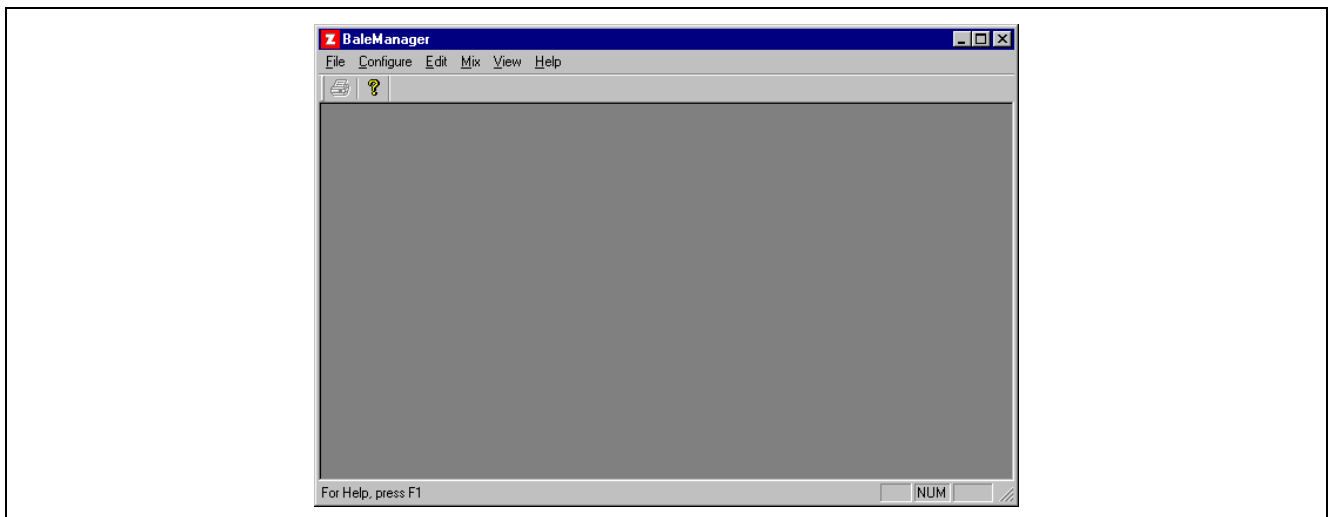

Fig. 6-58 Bale Manager Main Screen
16.1 Immediately, the Bale Manager window will appear (Fig. 6-58)
- 18.9 Select OK to exit the System Status window and go back to the Bale Manager window (Fig. 6-58).
20.6 Perform the above procedures for all of the listed fiber properties using the following values, then Exit to return to Bale Manager (Fig. 6-58).
21.6 Select Exit to complete Growth Area entry and return to the Bale Manager window of Fig. 6-58.
22.3 “Mix Name Added” will appear (Fig. 6-70) Select OK to return to the Bale Manager window of Fig. 6-58.
22.4 Select OK and return to the Bale Manager window of Fig. 6-58
23.1 Select OK to return to the Bale Manager window of Fig. 6-58.
24.0 In the Bale Manager window of Fig. 6-58, select File then Import in the drop down menu.